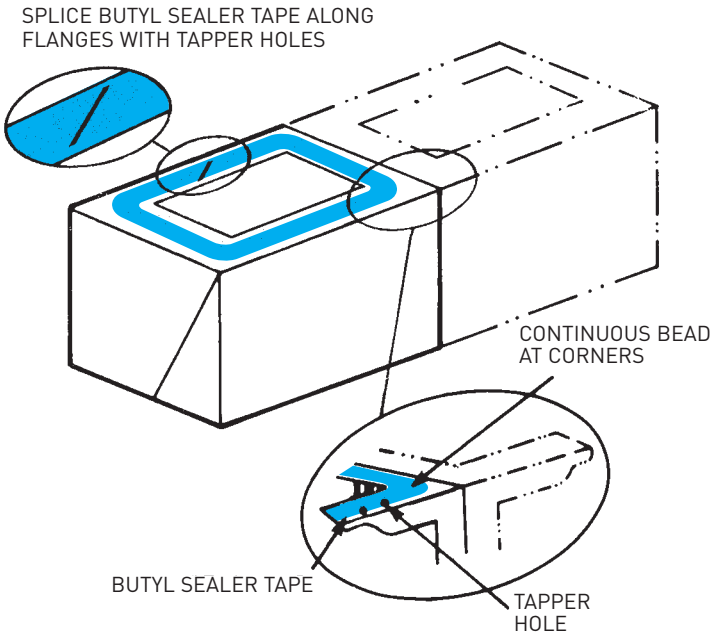

Figure 2
3. Apply the 1" flat butyl sealer tape around the periphery of the top flange of the basin-fan section as shown below in Diagrams I, J or K (See Figure 2). This butyl sealer tape must be centered directly over the centerline of the taper holes and on the centerline of the end flanges where there are no taper holes.
Figure 2: Plan view of recommended unit servicing and maintenance spacing for single air inlet unit (Series 1500 Cooling Towers, FXV Closed Circuit Cooling Towers, CXV Evaporative Condensers, Series V Cooling Towers, Closed Circuit Cooling Towers and Evaporative Condensers)